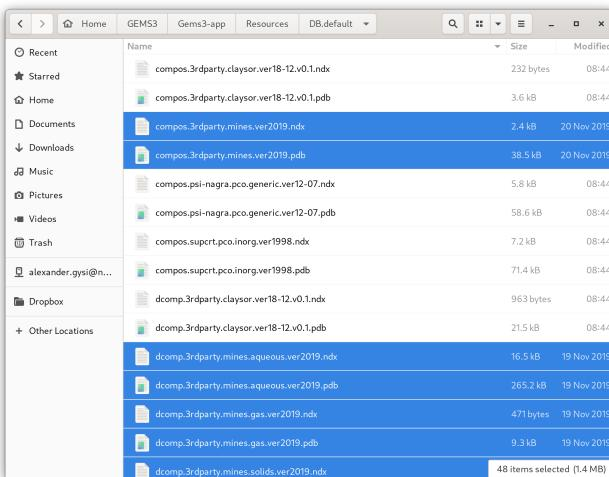

Figure 1.3: Database files merged with the Gems3-app/Resources/DB.default folder in GEMS.
- Merge these database files with the Gems3-app/Resources/DB.default folder by pasting them into DB.default (Fig. 1.3).